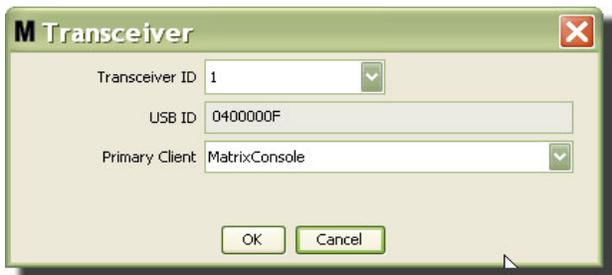

FIG. 63
3. The Modify screen shown in FIG. 63 displays. On this screen you can modify the Transceiver ID assigned to the transceiver. Although the USB ID is listed on this screen, it is not an editable field. It is provided for information only.